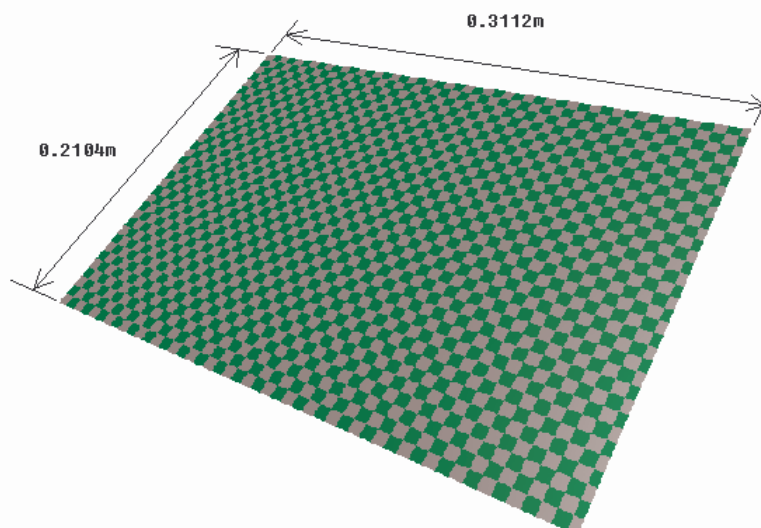

**Figure 90: Calibrating Point 1 of Cylinder-Section Stock-Shape**
7. Follow the onscreen information to select each calibration point with the FaroArm, ensure that the chosen Tool is connected to the arm. Use the green arm button to select a point or the red to exit. See Figure 90.